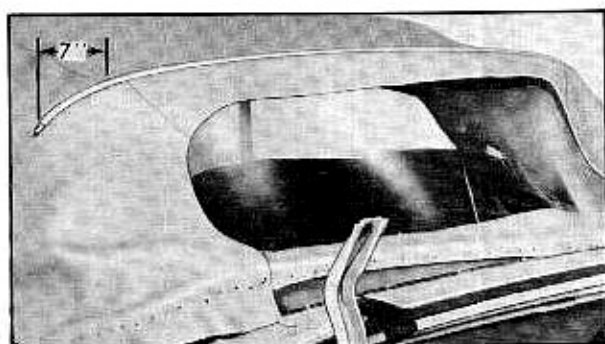

Fig. 3-116 Limit of Tacking Surface-Top Material to Rear Bow
20. Detach trim stick and tack outer ends of back curtain and top material to stick, as shown in Fig. 3-116. Use marked line as locating reference.